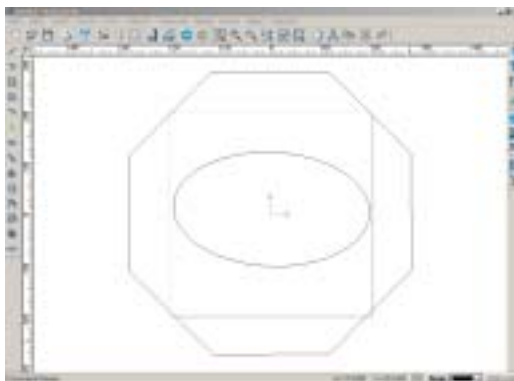

Fig. 12-30
2. Draw an ellipse and a regular polygon. (Fig. 12-30)